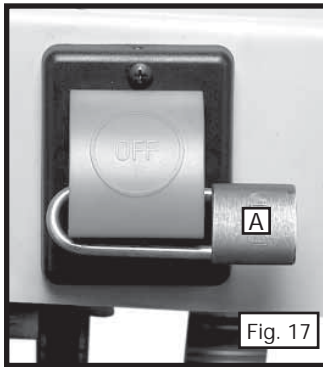

Fig. 17
IMPORTANT: When the machine is not in use, the switch should be locked in the "OFF" position to prevent unauthorized use, using a padlock (A) Fig. 17 with a 3/16" diameter shackle.